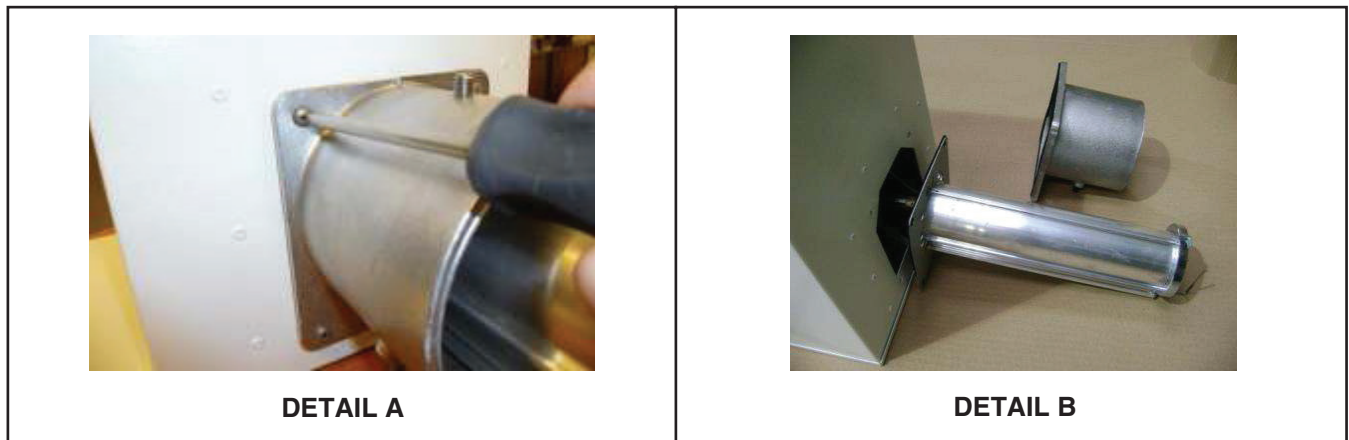

Figure 24. Burner Assembly Removal
4. Remove and save four screws that secure burner support casting to burner cabinet (see Figure 24, DETAIL A) and remove burner assembly (see Figure 24, DETAIL B).